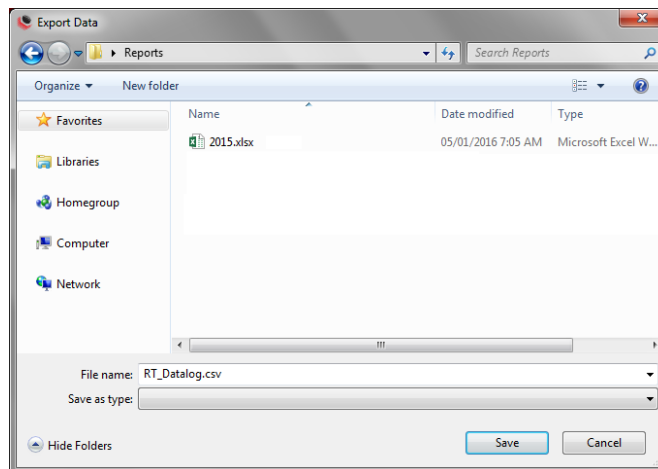

Figure 5.7-3: Saving the Data Log
3. When confirmed "**Yes**" or "**No**," a file browser will be opened asking for a location to save the file (Figure 5.7-3).